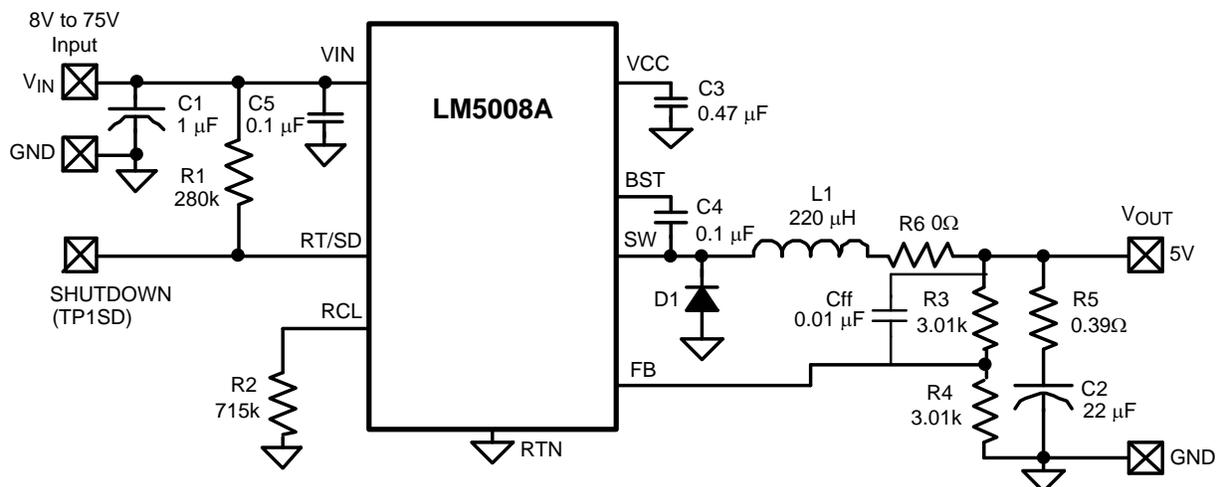

Figure 3. Intermediate Ripple Configuration
**Option B) Intermediate Ripple Configuration:** This configuration generates less ripple at  $V_{OUT}$  than option A above by the addition of one capacitor ( $C_{ff}$ ) across  $R_3$ , as shown in Figure 3.